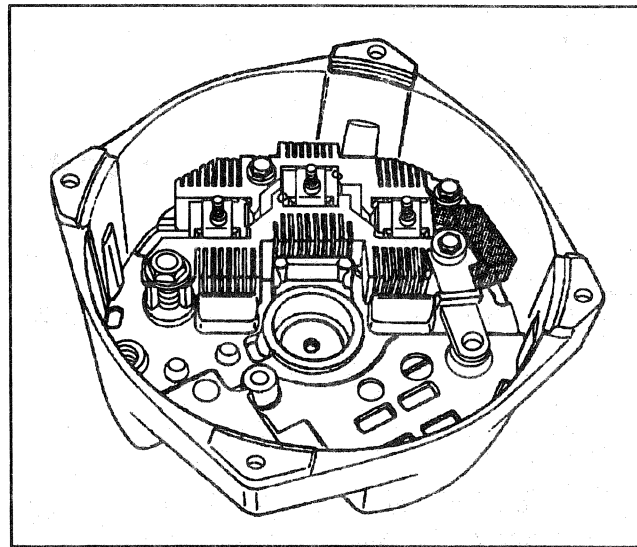

Figure 9—Rectifier Bridge in End Frame
5. BAT terminal nut from the insulated heat sink (Figure 9).
7. Capacitor and rectifier bridge from the frame (Figure 9).